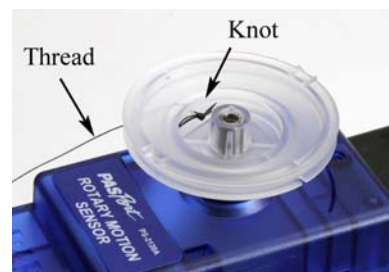

Figure 5: Attaching Thread to Pulley
8. Cut a piece of thread about 75 cm long. Run the thread through the hole in the medium size pulley, and tie a large knot as shown in Figure 5.